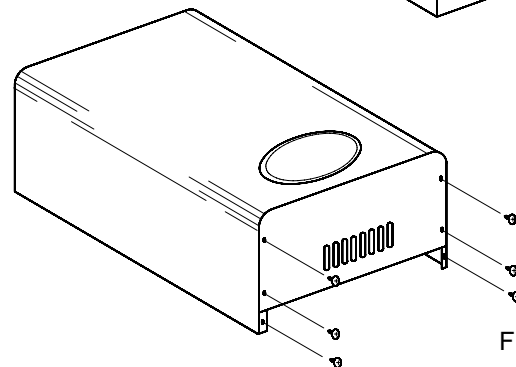

Fig. 14
- 5.4.2 Unscrew the 4 screws that fasten the lower grating on the casing and remove it from the sides of the casing (Fig. 14).